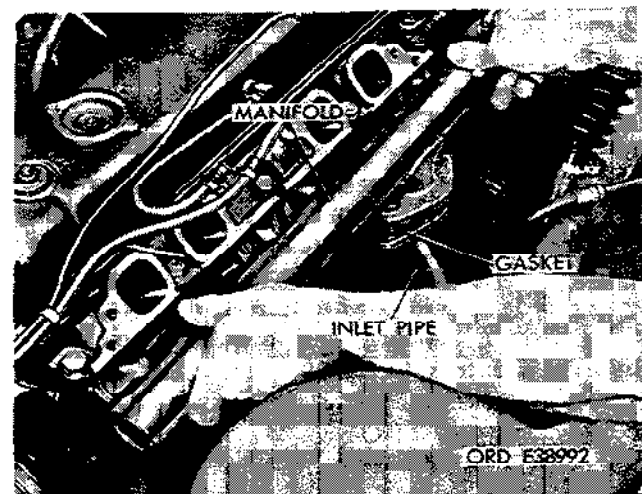

Figure 2-76. Remove exhaust manifold.
- (5) Lift off exhaust manifold and discard inlet pipe gasket (see fig. 2-76).
b. Installation. Perform operations (5) back through (1) and refer to figs. 2-76 and 2-75 for instructions to install exhaust manifold.